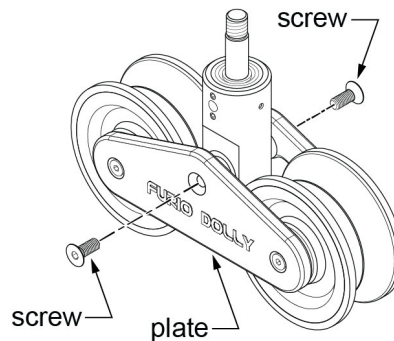

Figure 8 - Removing the Passive Wheel Post Screws
1. Use two 5 mm hexagonal wrench to remove the wheel post screws (one on either side), as shown in **Figure 8**.